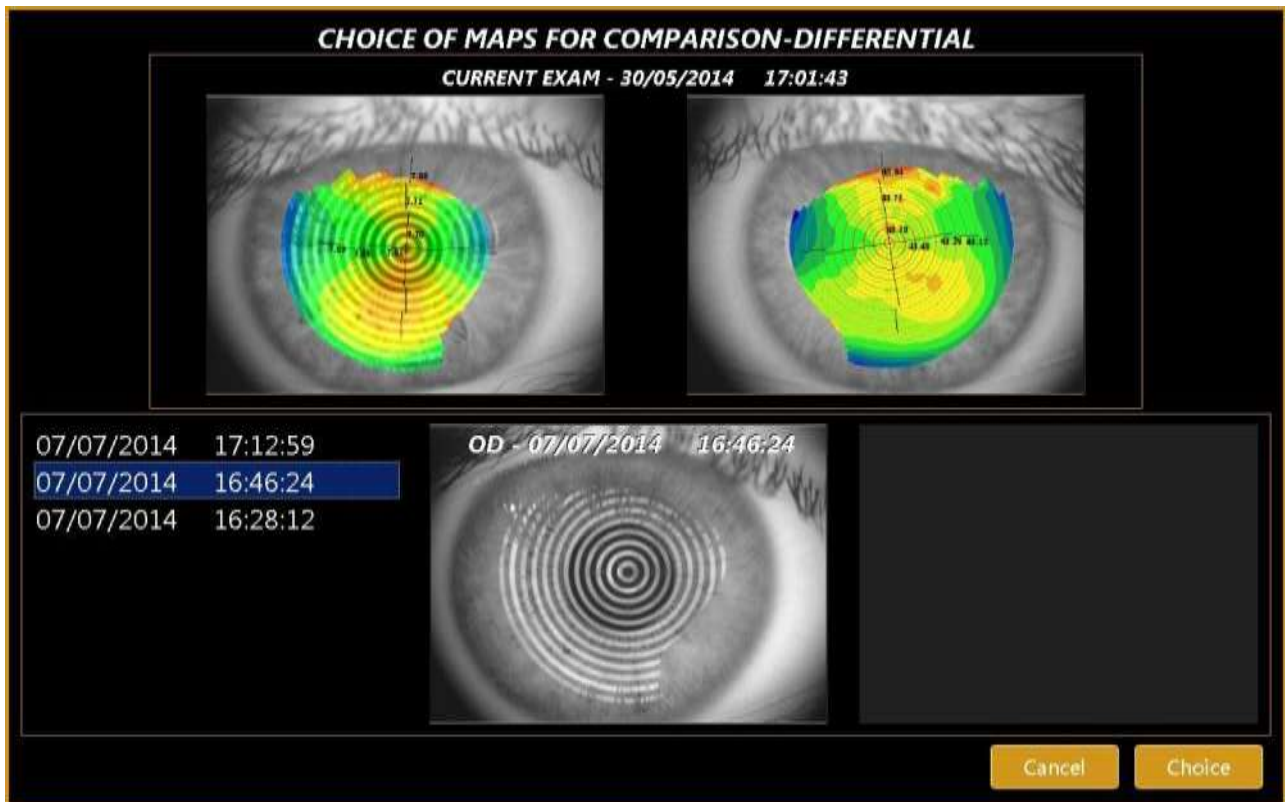

Fig. 42
- ✓ **Differential**: the user can select the image of another exam of the same patient to compare it with the current exam (Fig. 42).